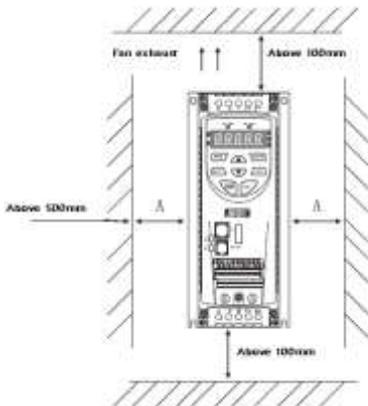

Fig.3-1 Installation gap
- 2) Make sure the inverter has enough space for heat emission and the installation space is shown as Fig.3-1. However, when laying it, please consider the heat emission of other parts in the cabinet.